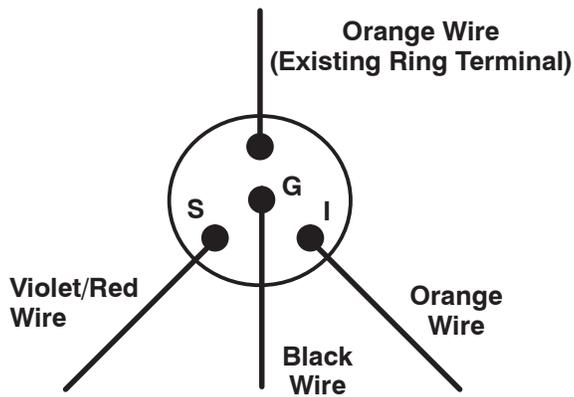

Figure 3
10. Connect the appropriate colored wires from the wire harness to the appropriate terminals on the back of the tachometer with hex nuts as shown in Figure 3.